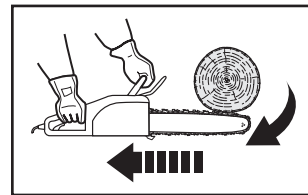

Fig. 8e
4. Pinching the saw chain (3) along the top of the guide bar (4) may push the guide bar rapidly back toward the operator (Fig. 8e).